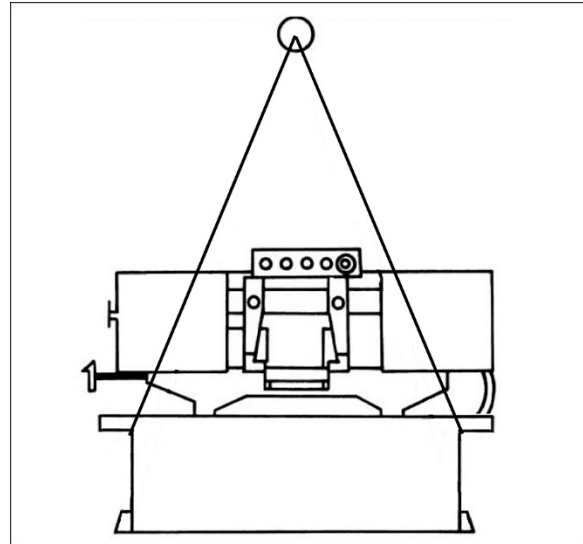

Figure 5-1
- 2. Use lifting straps that are isolated from the band saw's finished surfaces and knobs, to move machine to desired location. See Figure 5-1 for strap placement. Do not strap bow or vise assembly.